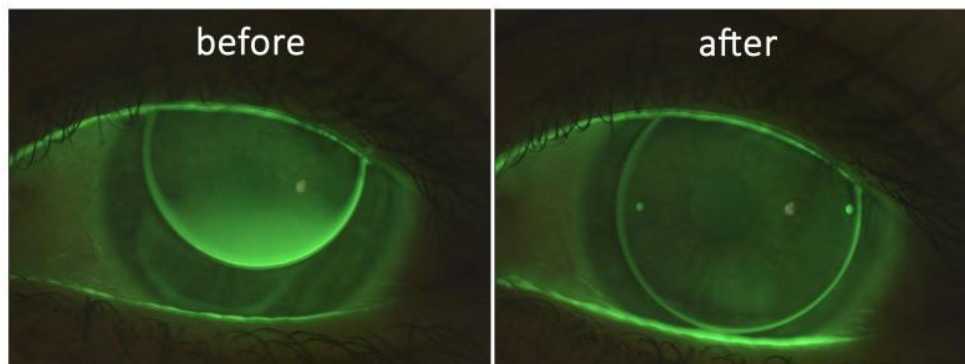

Figure 1: Problem Solving - peripheral toric design
The first step is to optimize the peripheral fitting of the (R)GP lens, as even moderate levels of toricity can dramatically reduce the ability of a spherical lens to translate. In our first example, instead of a rotationally symmetrical aspheric lens design, a peripheral toric lens design was used (Figure 1), which immediately solved the problem of the high-riding bifocal lens.